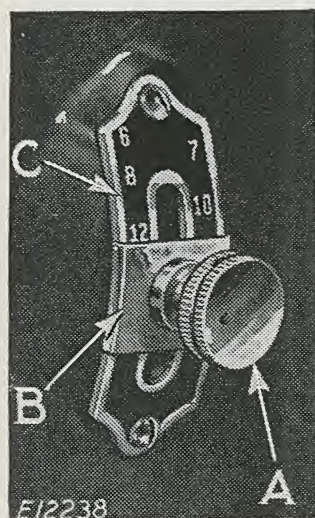

FIG. 14
The machine can be adjusted to make from 6 to 30 stitches to the inch as indicated by the numerals on the stitch indicator plate (C, Fig. 14).
The number of stitches to the inch that the machine is set to make is indicated by the number which is in line with the upper edge of the stitch indicator (B, Fig. 14).
To change the length of stitch, loosen the thumb screw (A, Fig. 14) and move it up or down until the upper edge of the stitch indicator (B) is in line with the bottom of the number of the desired length of stitch, then tighten thumb screw (A).